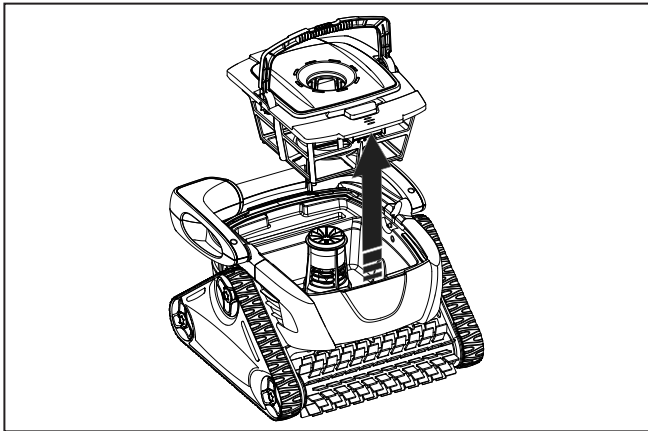

Figure 17. Remove the Filter Canister
3. Grasp the handle and lift up to remove the filter canister (Figure 17).